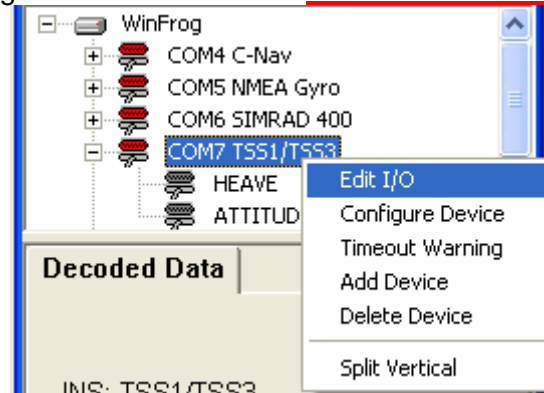

Figure 18
4.11 For the **“TSS1/TSS3 (Pitch & Roll)”** verify the following settings under **“Edit I/O”**. See Figures 18 & 19. **NOTE: Baud Rates must match between TSS1/TSS3 & CNAV.**